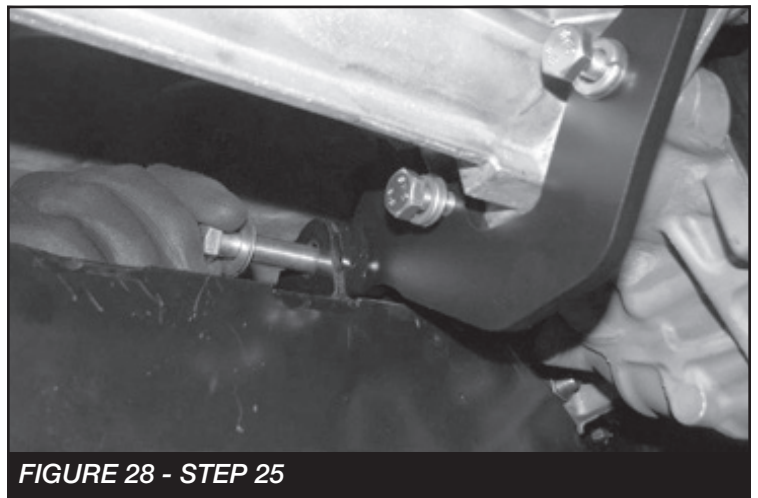

FIGURE 28 - STEP 25
25. Install a 1/2" -13 x 4" bolt, washers and nut through the tabs on the rear crossmember and the bushing on the center bracket. Leave loose at this time. **SEE FIGURE 28**